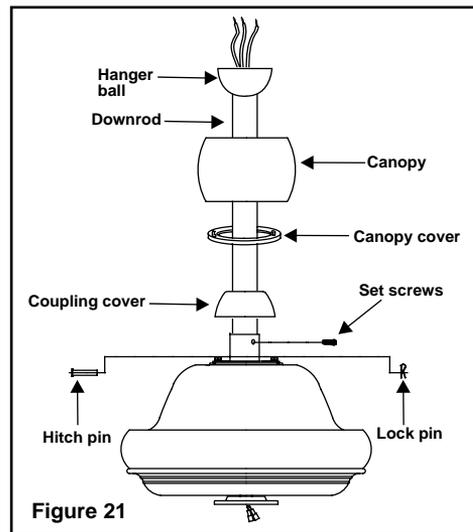

Figure 21
Step 4. Slip coupling cover, canopy cover and canopy onto downrod. (Fig. 21) Carefully reinstall hanger ball onto rod being sure that cross pin is in correct position, set screws are tighten and wires are not twisted.